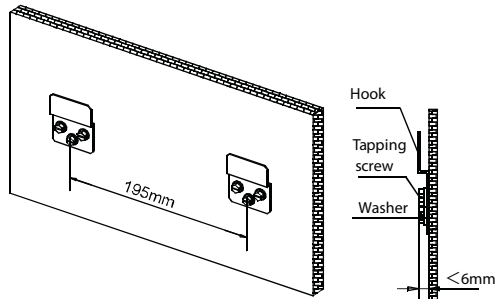

Fig. 5 – Anchor the hooks
- A location which provides appropriate clearances as outlined in Fig. 5.
1. The mounting hooks should be located horizontally and level on the wall. All minimum clearances shown in Fig. 5 should be maintained.
2. Anchor the hooks at the specified location on the wall using the mounting screws (see Fig. 5). Anchor the hooks on wall studs.